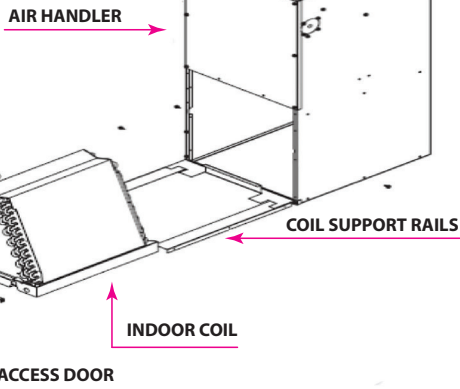

Figure 6: Indoor Coil Disassembly When Converting to Downflow Operation
The MS Series air handlers may be converted to the downflow configuration using a required downflow conversion kit by following the instructions below (See Figures 6 and 7).
3. Remove indoor coil assembly with drain pan by sliding out the front of the air handler as shown in the Figure 6.